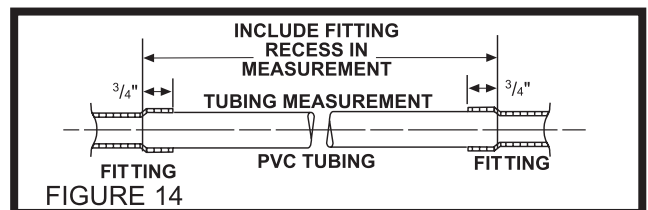

FIGURE 14
7. Refer to Figure 14. Measure length of tubing needed to connect inlet to trunk line. Allow approximately 3/4" of tubing for inserting into fittings.